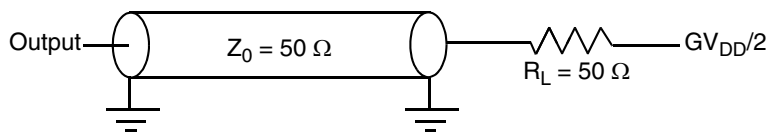

Figure 8. AC Test Load for the L3 Interface
- For high-speed operations, L3 interface address and control signals should be a ‘T’ with minimal stubs to the two loads; data and clock signals should be point-to-point to their single load. Figure 8 shows the AC test load for the L3 interface.